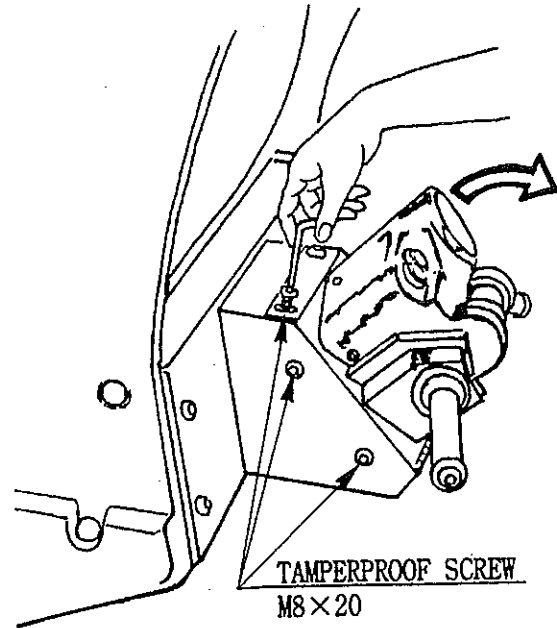

FIGURE 31: HANDLE UNIT ACCESS
2. Open the Handle Unit by removing the 6 tamperproof Torx screws with the supplied tamperproof wrench (stored in the Cash Box) (see Figure 31).